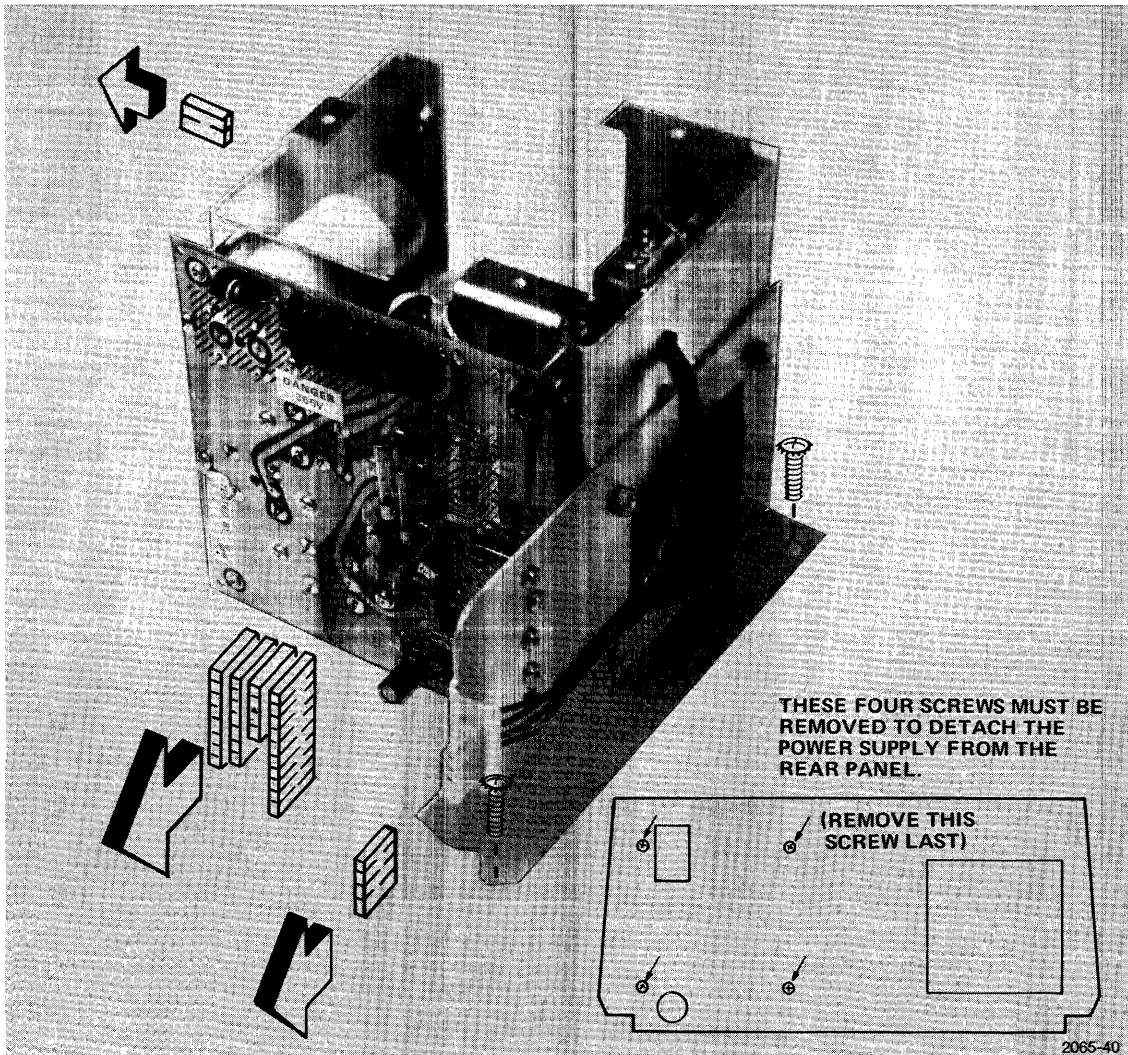

Fig. 3-22. Power supply removal procedure.
2. Remove all connectors and Phillips screws as shown in Fig. 3-22. The screw to be removed last is marked in the illustration.